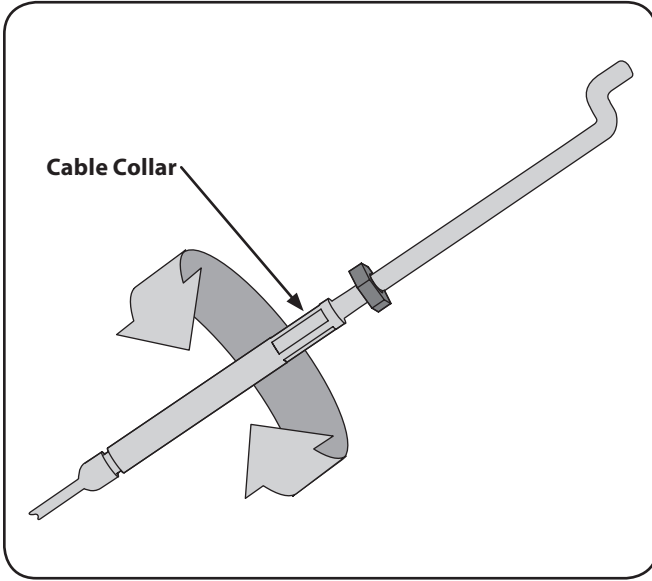

Figure 6-3
- Turn the cable collar section one or two turns to add or lesson tension on the cable. See Fig. 6-3.